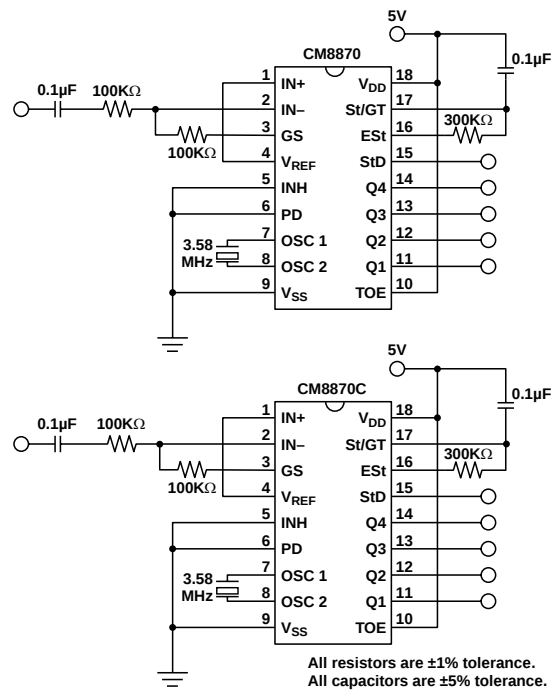

Figure 1. Single Ended Input Configuration
14. Referenced to Figure 1. Input DTMF tone level at -28dBm.
15. Times shown are obtained with circuit in Figure 1 (User adjustable).
The value of t_{DP} is a parameter of the device and t_{REC} is the minimum signal duration to be recognized by the receiver. A value for C of 0.1 μ F is recommended for most applications, leaving R to be selected by the designer. For example, a suitable value of R for a t_{REC} of 40ms would be 300K. A typical circuit using this steering configuration is shown in Figure 1. The timing requirements for most telecommunication applications are satisfied with this circuit. Different steering arrangements may be used to select independently the guard-times for tone-present (t_{GTP}) and tone absent (t_{GTA}). This may be necessary to meet system specifications which place both accept and reject limits on both tone duration and interdigit pause.
In a single-ended configuration, the input pins are connected as shown in Figure 1, with the op-amp connected for unity gain and V_{REF} biasing the input at $\frac{1}{2} V_{DD}$. Figure 6 shows the differential configuration, which permits the adjustment of gain with the feedback resistor R5.